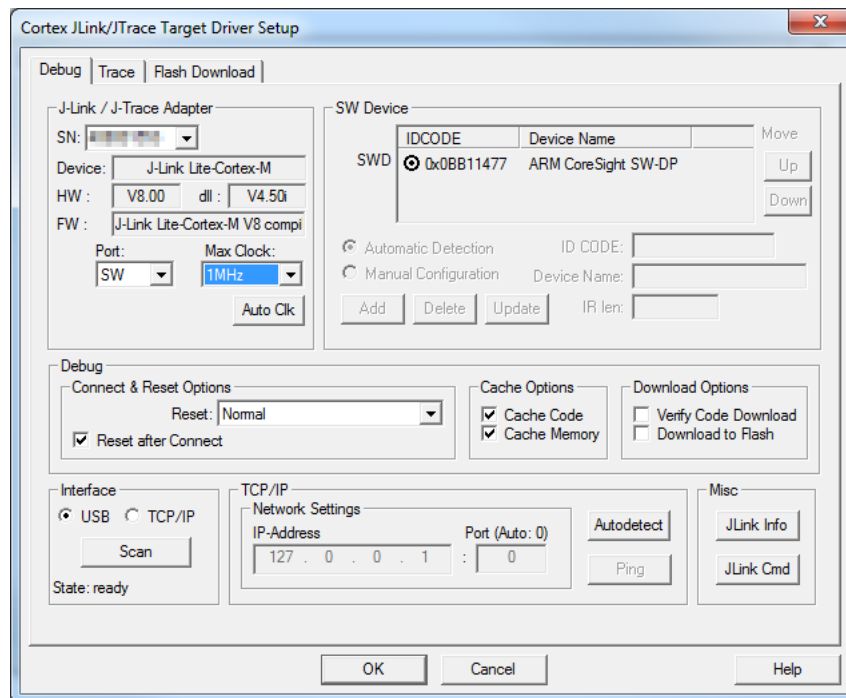

Figure 26 Target driver setup
8. In **Max Clock** the maximum speed for the debugging port cannot be exceeded (1 MHz). A proper configuration is shown in **Figure 26**.